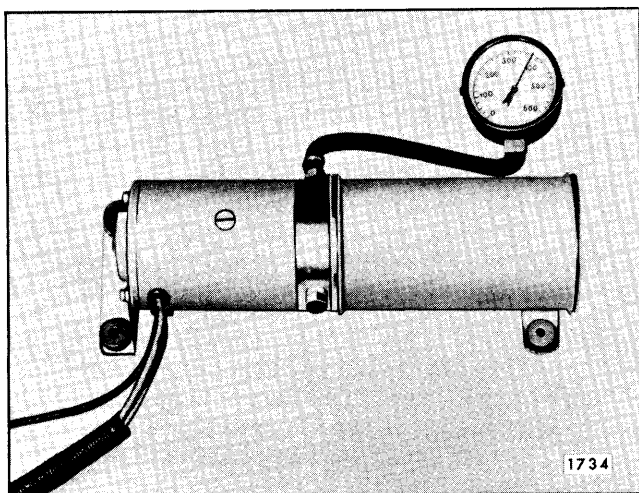

Fig. 13-64—Checking Pump Pressure
- b. Install plug in one port, and pressure gauge in port to be checked. See Figure 13-64.